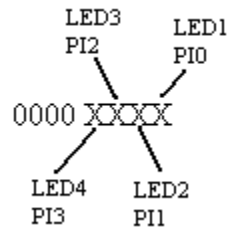

Figure 1. Port K data register.
The AXM-0295 project board includes 4 LEDs useful for visual display of program outputs. The LEDs are wired to the lower nibble (4 bits) of the 8-bit Port K of the microcontroller, as shown in Figure 1. The HC12 has two registers associated with Port K, a *data* register where values can be read from or written to, and a *data direction* control register that determines if each bit of the port is an input or an output. When a bit of the *data direction* register is set high (1), the corresponding bit of the *data* register is an output. If it is set low (0), the *data* register bit is an input. Thus, to set Port K to output signals to the LEDs connected to its lower nibble bits, a value of \$XF would need to be stored to the Port K *data direction* register (where X means don't care for the upper 4 bits).